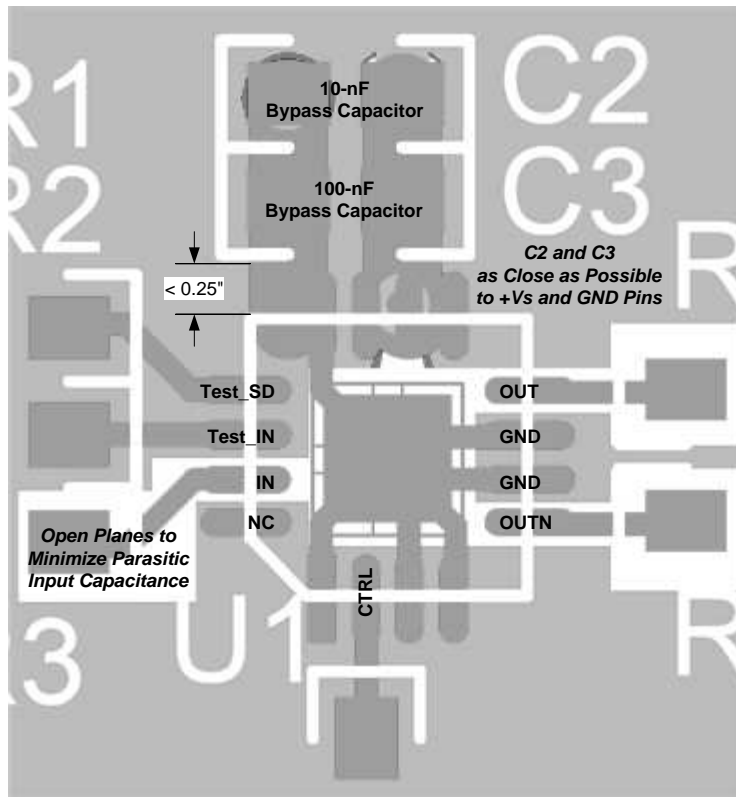

图 48. Layout Example
- b. **Minimize the distance** (< 0.25") from the power-supply pins to high-frequency 0.1- μ F decoupling capacitors, as shown in Figure 48. At the device pins, make sure that the ground and power-plane layout are not in close proximity to the signal I/O pins. Avoid narrow power and ground traces to minimize inductance between the pins and decoupling capacitors. Always decouple the power-supply connections with these capacitors. An optional supply decoupling capacitor (0.1 μ F) across the two power supplies (for bipolar operation) improves second-harmonic distortion performance. Use larger (2.2 μ F to 6.8 μ F) decoupling capacitors, effective at lower frequencies, on the main supply pins. These capacitors can be placed somewhat farther from the device and can be shared among several devices in the same area of the PC board.